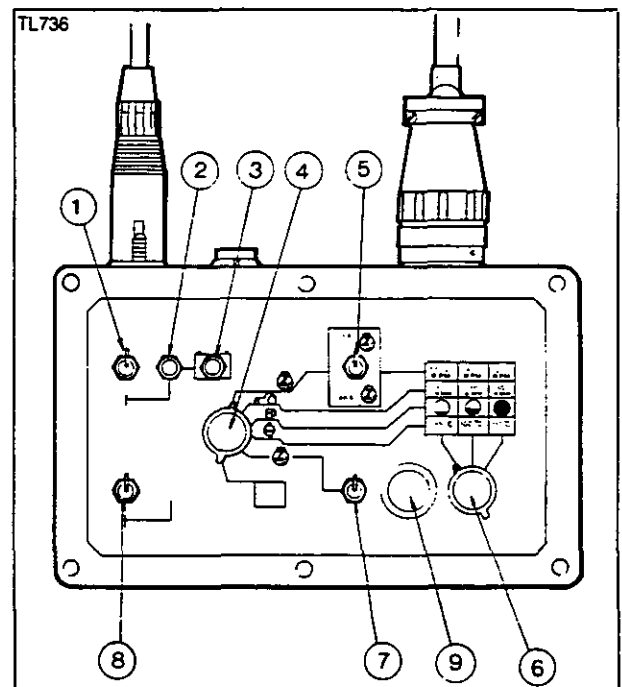

Figure 2
8. Switch the unit on (1), (Figure 2).
9. The red light (2) will indicate that the power is on.
10. The green light (3) 'ON' indicates that there is sufficient power in the battery to power the unit. No green light, try another battery.
TEST 1 Checking the Tachometer (Figures 2 and 3).
TEST 2 Checking the speedometer (Figures 2 and 4).
TEST 3 Checking the fuel gauge (Figures 2 and 5).